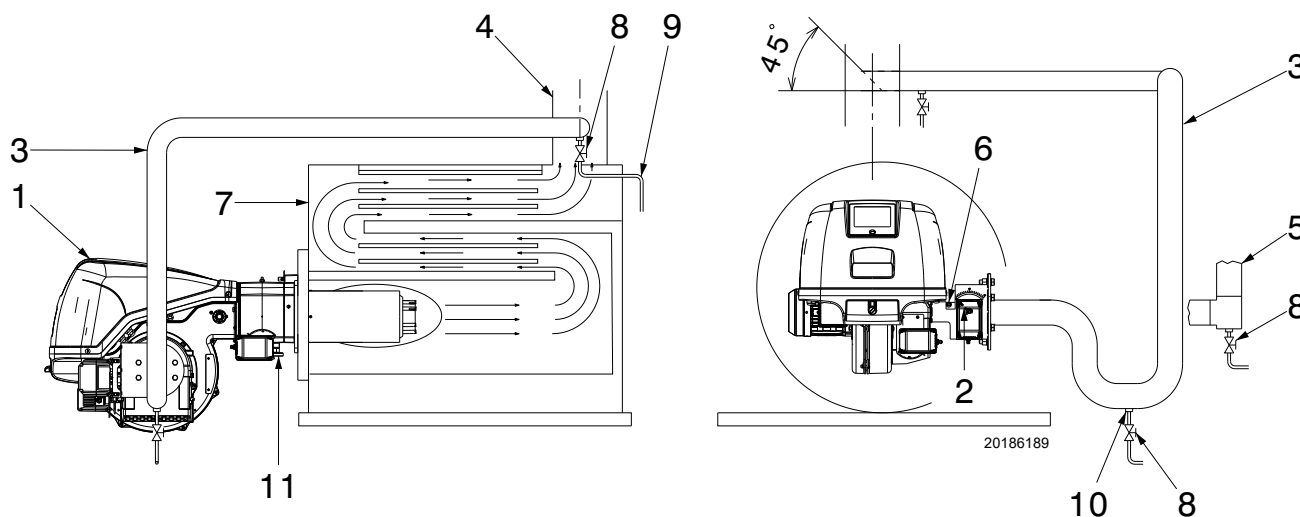

Fig. 18
- Normally the duct would connect to the stack as shown in Fig. 18, with a 45° cut facing the flue gas flow and with the center of the cut centered in the stack.
Key (Fig. 18)
Burner output kW	Flue gas pressure at test point 6)(Fig. 18) - mbar